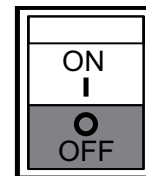

Figure 26. Idle Control Switch (OFF)
2. Place idle control switch (Figure 26) in the **OFF** position